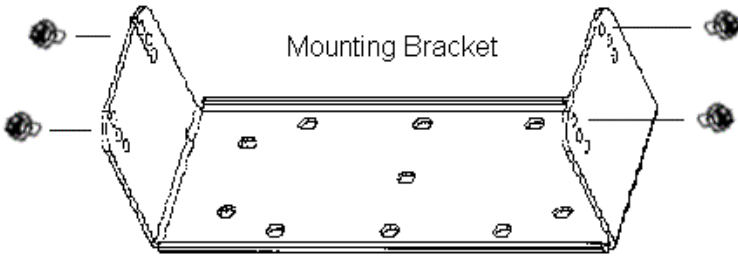
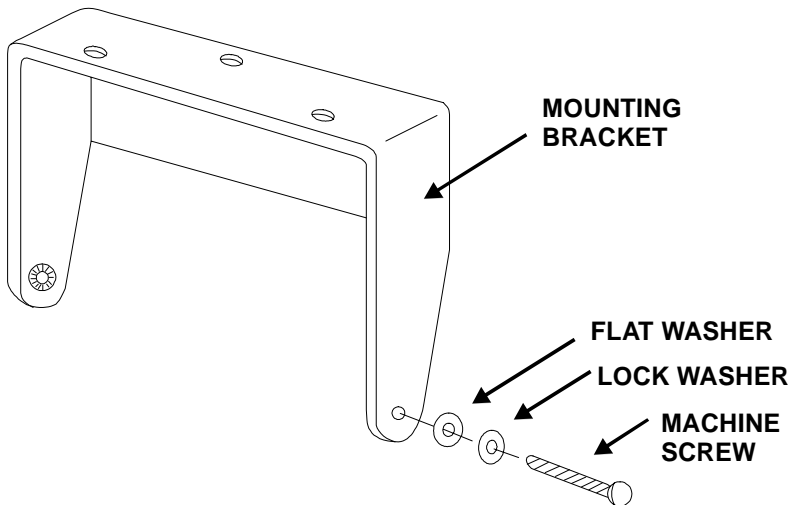

Figure 9 – Mounting Radio to Bracket
Figure 10 - Mounting the External Speaker
3. Place the radio into the mounting bracket and secure with the four 3/8" Phillip's screws supplied. The radio can be fastened in any of three different positions: parallel to the mounting surface or tilted slightly from the parallel position. (Refer to Figure 9.)
2. Use the mounting bracket as a template for locating the mounting holes, and mount the speaker as shown in Figure 10.
3. Refer to Figure 9 for instructions on connecting the External Speaker option and Figure 10 for instructions on connecting the Internal/External Speaker option.